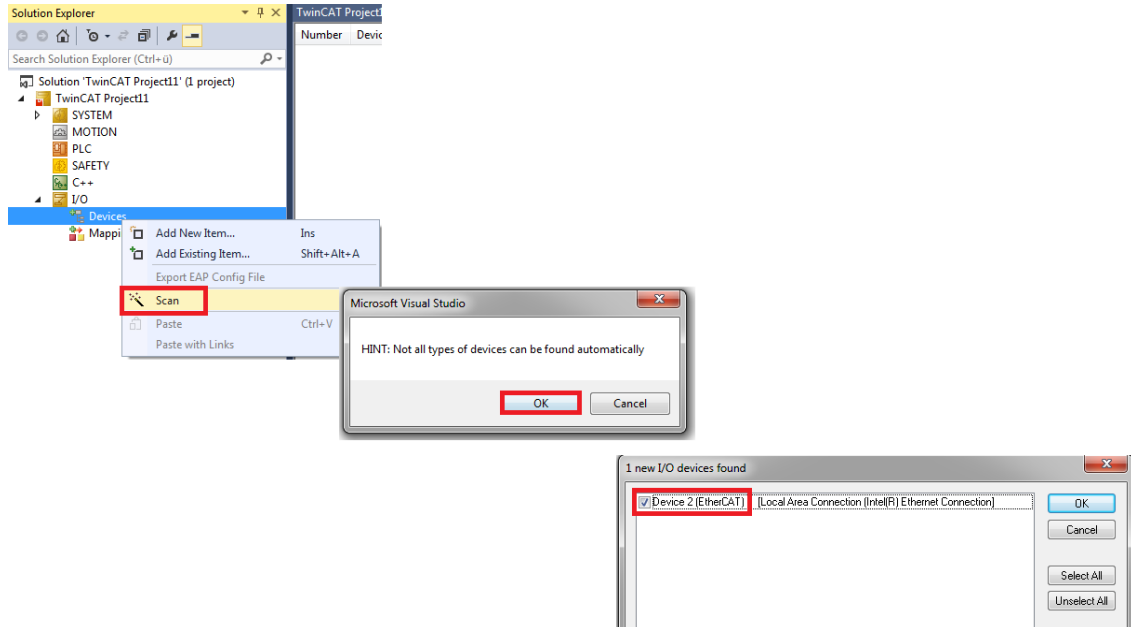

Figure 10: automatically scan devices
- a. Click with the right mouse button on I/O → Devices, select “Scan” and confirm the hint which automatically shows-up: the device called “EtherCAT”, corresponding to the master device functionality, should be automatically selected (Figure 10). Then press “OK”.